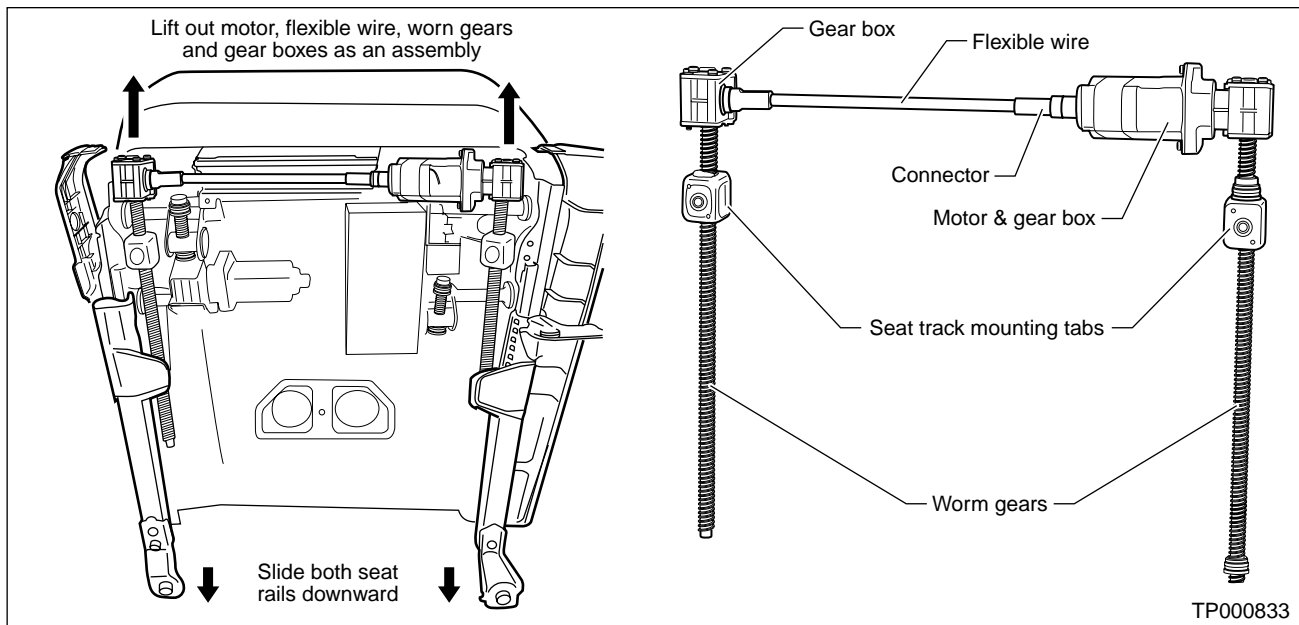

Figure 7
15. Slide both of the seat rails back to the rear position (towards the seat back) and remove the worm gears, flexible wire, motor, and gear boxes, all as one unit, from the seat adjuster assembly (see figure 7).